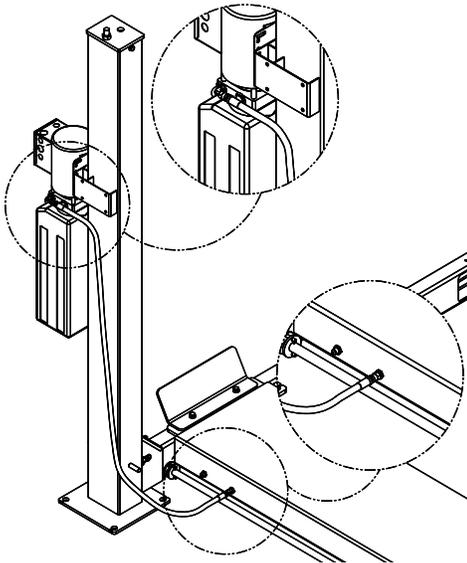

Fig 18 – Supply Line, Front
- 34) For installs on the front of the column (Fig 18), rout the power unit supply line to the bulkhead shown below. Attach the 90-degree fitting at a slight angle downward and secure the hose to the fitting.